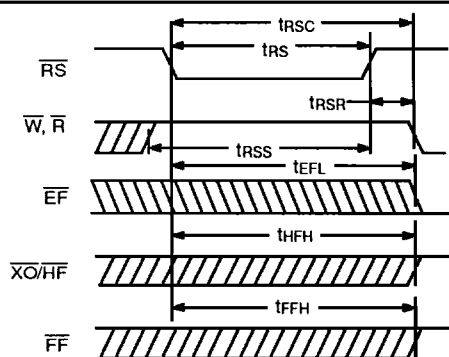

Figure 2. Reset Timing 15492B-5
Upon power up, the FIFO must be initialized with a Reset cycle. (See Figure 2.) The states of XI and FL are used during the reset cycle to determine the FIFO's mode of operation, as shown in Tables 1 and 2. For a valid reset cycle to occur, both the Read (R) and Write (W) signals must be HIGH t_{RS} prior to and t_{RSR} after the rising edge of Reset (RS). The reset cycle initializes the FIFO to an empty condition, signified by the Empty Flag (EF) being LOW, active, and both the Half-Full (HF) and Full Flag (FF) being HIGH, inactive.